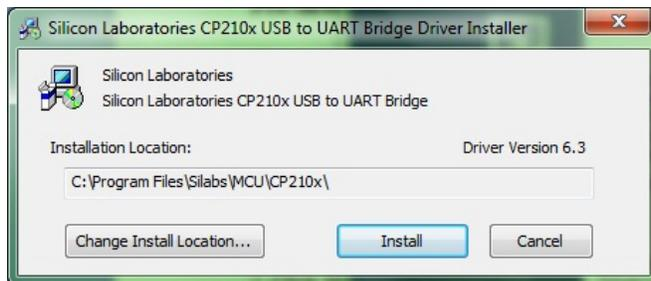

Figure 23 - USB Common Driver Install
7. Click **Install** to continue. Once the installation is complete, the **Installation Successful** message displays (see Figure 23).